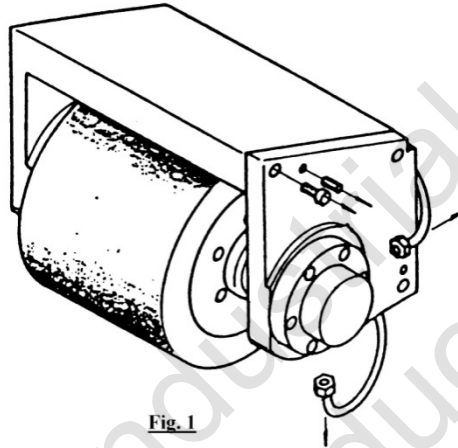

Fig. 1
Step 1 (Fig. 1)
1. Separate 2 oil pipes (1) from alloy bearing seat (2).
2. Dismantle positioning pin (4) and fixing bolt (5), then, take out cover (6).